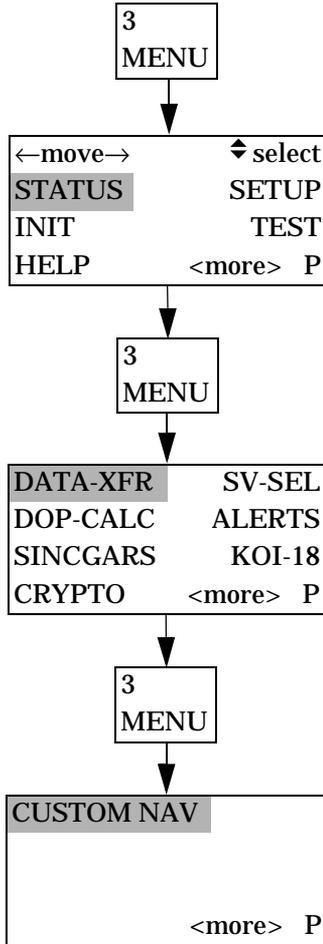

Figure 2-3 System Menu Display Pages.
2.3.2.4 MENU Key. Pressing the *MENU* key displays the system menu. The menu consists of three display pages (see Figure 2-3). Pressing the *MENU* key again shows another menu display. The first line of the *MENU* display has two non selectable fields. The “*move*” label shows that the *Left-* and *Right-arrow* keys move the cursor between the fields. The